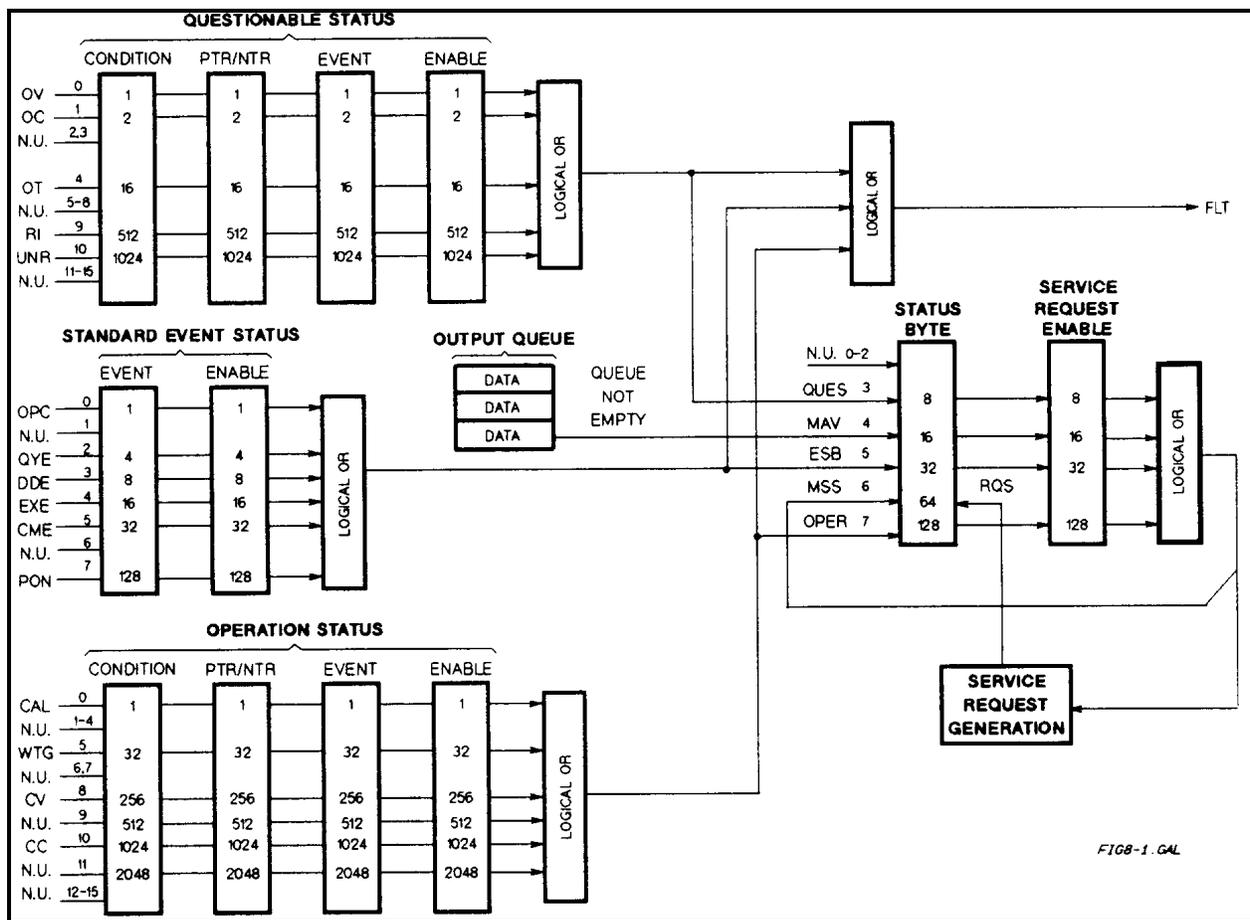

Figure 8-1. Agilent SAS Status Model
Figure 8-1 shows the status register structure of the Agilent SAS. The Standard Event, Status Byte, and Service Request Enable registers and the Output Queue perform standard GPIB functions as defined in the *IEEE 488.2 Standard Digital Interface* for Programmable Instrumentation. The Operation Status and Questionable Status registers implement status functions specific to the Agilent SAS. Table 8-2 and Figure 8-1 show the bit configuration of each status register.
The Questionable Status registers record signals that indicate abnormal operation of the Agilent SAS. As shown in Figure 8-1, the group consists of the same type of registers as the Status Operation group. The outputs of the Questionable Status group are logically-ORed into the QUES(tionable) summary bit (3) of the Status Byte register.
This group consists of an Event register and an Enable register that are programmed by common commands. The Standard Event Status Event register latches events relating to interface communication status (see Figure 8-1). It is a read-only register that is cleared when read.
This register summarizes the information from all other status groups as defined in the "IEEE 488.2 Standard Digital Interface for Programmable Instrumentation" standard. The bit configuration is shown in Figure 8-1 and Table 8-2. The register can be read either by a serial poll or by **\*STB?**. Both methods return the same data, except for bit 6. Sending **\*STB?** returns MSS in bit 6, while polling the register returns **RQS** in bit 6.
This example assumes you want a service request generated whenever the Agilent SAS switches to the CC (constant current) mode. From Figure 8-1, note that the required path is for a condition at bit 10 (CC) of the Operation Status register to set bit 6 (RQS) of the Status Byte register. The required register programming is shown in Table 8-5.